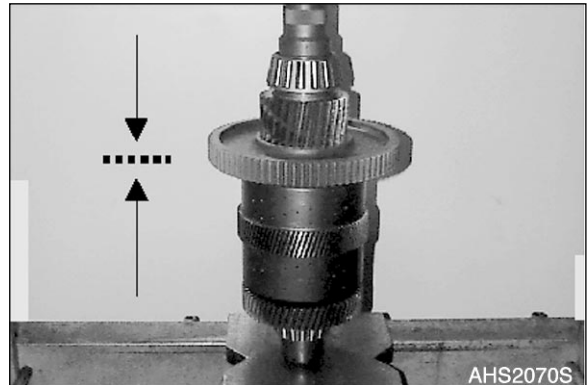

Figure 247
8. Lift plate carrier out of the clamping ring (S).
9. To ensure the exact contact of the components, preload bearing with 100 000 N (10 ton) (Figure 247).